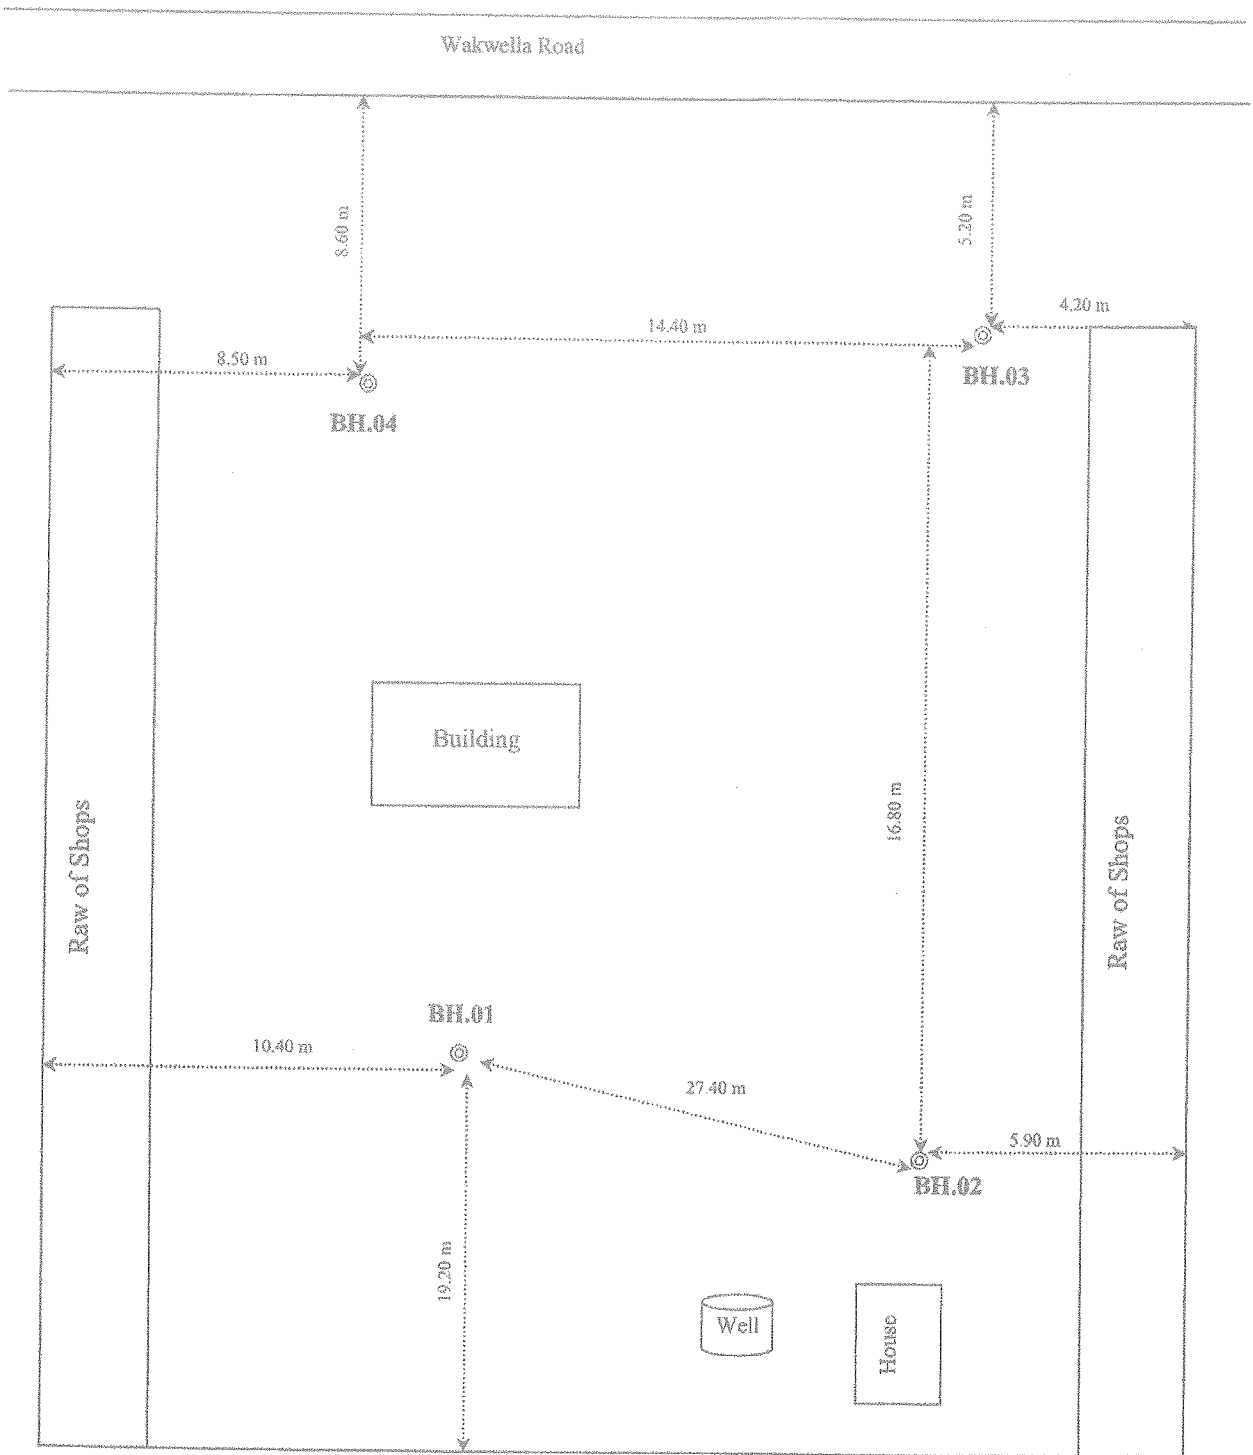

Figure Q1.1 - Site plan
- Q1. Bope-Poddala Pradeshiya Sabha intended to construct a shopping complex and a fair at Kalegana junction along Galle-Wackwella road. The site plan of the proposed location is shown in Figure Q1.1. In order to do a cost effective structural design, it was decided to carryout site investigation at the particular location.
- b) Based on preliminary site investigation, it was decided to carryout sub soil exploration using 4 boreholes to find the sub surface soil profile. The boreholes locations are illustrated in Figure Q1.1. The borehole logs of BH3 and BH4 are shown in Figure Q1.2 (a) and Figure Q1.2 (b) respectively.